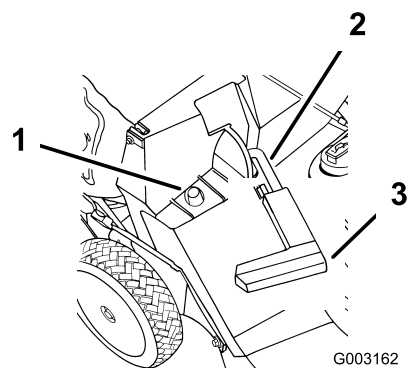

Figure 21
2. Ensure that the discharge door handle is fully forward and that the pin is engaged in the catch (Figure 21).
3. Slide the hole in the bag frame onto the retaining post on the discharge tunnel (Figure 21).
2. Raise the discharge door handle and move it forward to engage the pin with the catch (Figure 21).